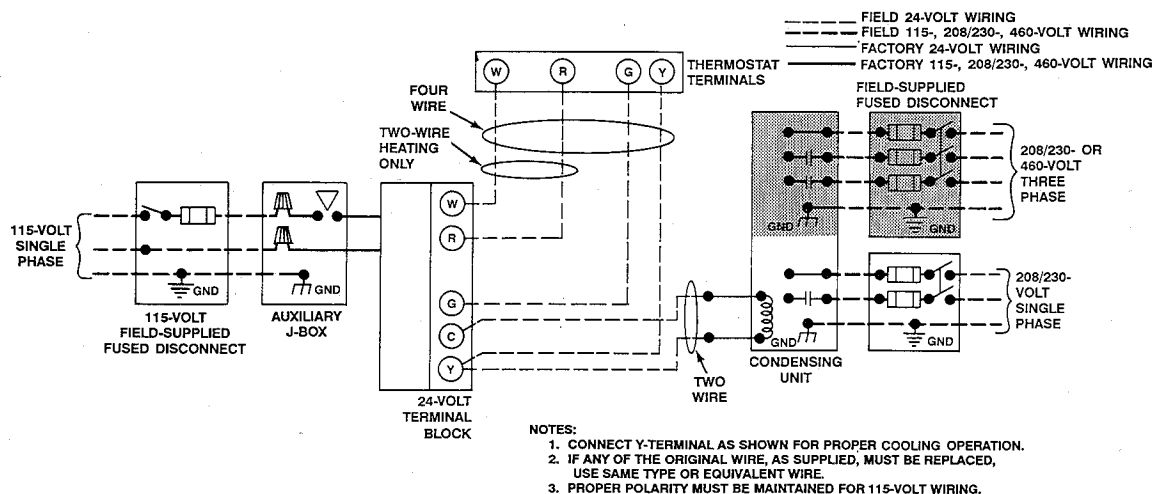
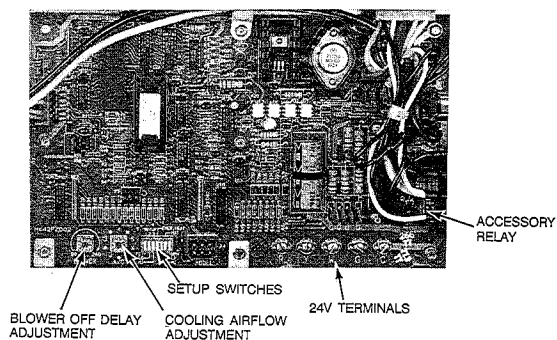
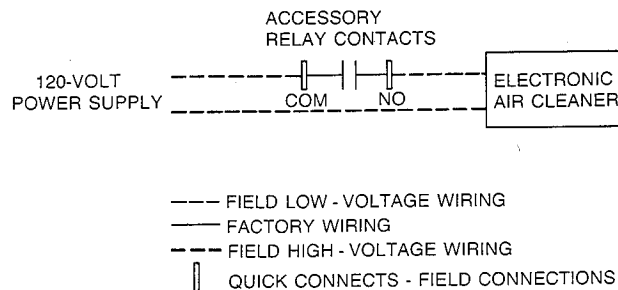

Fig. 7—Heating and Cooling Application Wiring Diagram
Fig. 11—Microprocessor Control Center
Fig. 12—Electronic Air Cleaner
See Fig. 7 for a wiring diagram showing the proper field 115- and 24-v wiring. Check all electrical connections (both factory and field) for tightness.
24-V WIRING — Make field 24-v connections at the 24-v terminal block on the control center; connect Y terminal as shown in Fig. 7 for proper cooling operation. The 24-v terminal board is marked for easy connection of field wiring. (See Fig. 11.)
Wire the air conditioner control circuit to terminals Y and C. (See Fig. 11.)
An isolated set of normally open contacts (not connected to 24 vac or 120 vac) are available to operate any accessory such as an electronic air cleaner (EAC) or humidifier. The relay contacts will close whenever the blower motor is operating. These contacts are accessible by 2 1/4-in. quick connects mounted directly on the relay as shown in Fig. 11. Wire leads with quick connects have been supplied as part of the control box wiring to simplify hookup per the 3 possible combinations shown in Fig. 12, 13, or 14.
4. Cut wire tie that surrounds accessory hookup leads. (See Fig. 11.)
NOTE: For 120-v accessory hookup, see items 5 through 11 and Fig. 12 or 13.
5. Locate black pigtail lead from 120-v terminal block (TB) and cut off tip of insulator—allowing 1/4-in. quick connect to be used.
NOTE: If a bypass-type humidifier is used, the bypass humidifier switch on the microprocessor control board must be placed in the ON position to increase the low-heat blower motor speed. This prevents nuisance limit trips caused by the increase in return-air temperature caused by the bypass from the humidifier. (See Fig. 11 for BPH switch location.)
that have modulated closed during heating or cooling cycles. (See Fig. 11 and Table 8 for multizone setup switch MZ location.) A 2-stage thermostat interface kit may be required for multizone applications. Short OFF or long ON cycles may cause furnace to run continuously in high-fire operation. See kit instructions for further details.